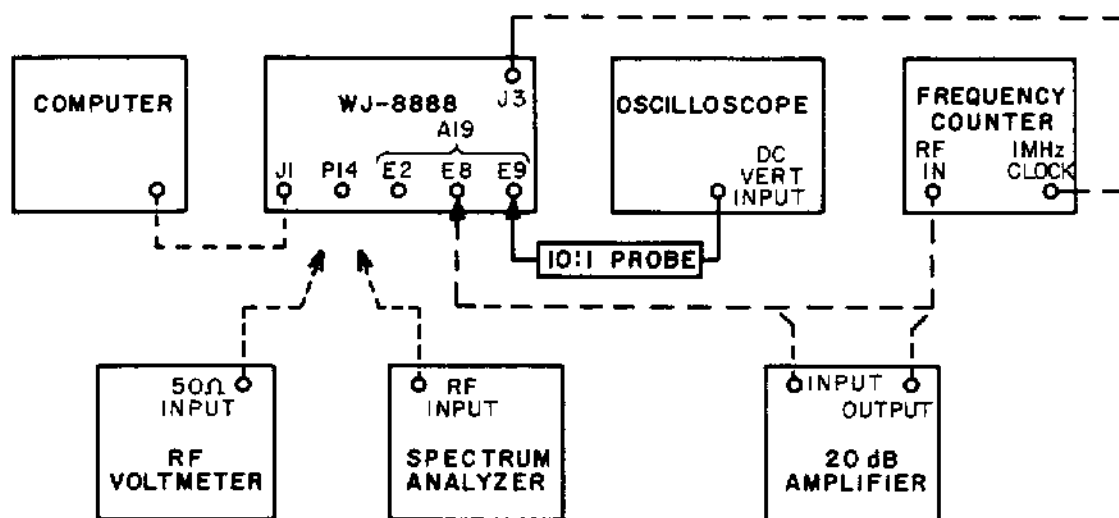

Figure 5-46. Test Setup, BFO Alignment
- (1) Connect the oscilloscope as shown in Figure 5-46.
- (2) If the BFO is known to be completely misaligned, set the following components to midrange; otherwise, make no prealignment adjustments. The adjustable components for the BFO are A19: C42, L13, L14, R39, and R66.
- (3) Set the RCVR CONTROL to the LOCAL mode and the DETECTION MODE to CW FIXED.
- (4) Rotate C42 through its full range while observing the base line shift on the oscilloscope.
- (5) Set C42 so the base line shift is between the two extremes.
- (6) Set the RCVR CONTROL to the REMOTE mode. Connect the computer shown in Figure 5-46 to J1. Program the computer to step the BFO back and forth from 450 kHz to 460 kHz at a 60 mS rate.
- (8) Connect the frequency counter shown in Figure 5-46 to A19E8 and to J3. Set the receiver rear panel CLOCK switch to EXT.
- (9) Program the computer to establish a BFO frequency of 455 000 kHz.
- (10) The frequency counter should indicate 8.500 0 MHz.
- (11) Program the computer to establish a BFO frequency of 465 000 kHz.
- (15) Connect the frequency counter to A19E2.
- (16) The indication should be 36.000 MHz.
- (17) Connect an IC clip to U19. Then connect the oscilloscope to pin 3.
- (18) Program the computer so the BFO can be set to 445.000 kHz, 455.000 kHz, and 465.000 kHz.
- (19) Adjust L13 and L14 for a nearly flat response having a slight peak at 455.000 kHz and equal levels at 445.000 kHz and 465.000 kHz.
- (20) Connect the oscilloscope to U24 pin 8.
- (21) Establish a BFO frequency of 455.000 kHz
- (22) Adjust R39 for maximum undistorted output.
- (23) Connect the RF voltmeter to P14 of the receiver.
- (24) Tune the BFO through its range while observing the RF voltmeter. The level should be greater than 70 mV at all times.
- (25) Connect the frequency counter to P14. This output level may not drive the frequency counter. If not, use the 20-dB amplifier shown in Figure 5-46 to increase the level.
(26) Program the computer to establish a BFO frequency of 445.000 kHz, 455.000 kHz and 465.000 kHz. In each case verify the same corresponding indications on the frequency counter.
(27) Set the rear panel CLOCK switch to INT.
(28) Connect the spectrum analyzer to P14 in place of the RF voltmeter.
(29) Set the spectrum analyzer controls as follows: